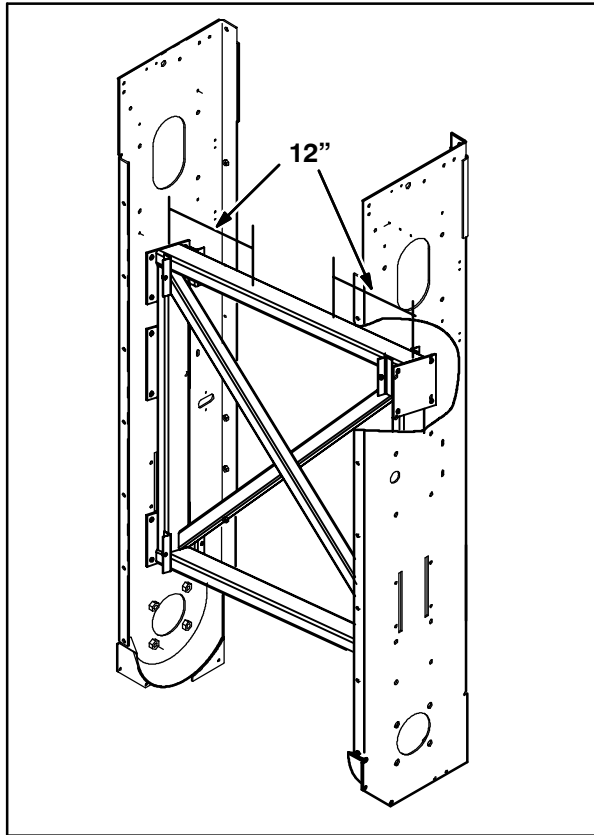

FIG. 4-(not to scale)
11. Measure 12" from the outer edges of each side of the top cross member and clean any built up dirt from the two areas just measured. Refer to Fig. 4.